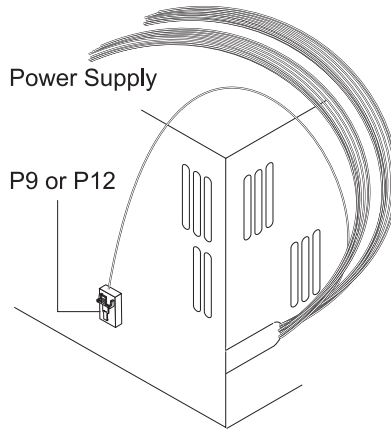

Figure 2-5. PC Power Supply
- 2 Locate the power supply for your system (see Figure 2-5 on page 2-7).
- 3** If your PC power supply has a power cable labelled **P9** or **P12**, as shown in Figure 2-5, continue with “Connecting the 3-Way Combined Wake on LAN Cable.”